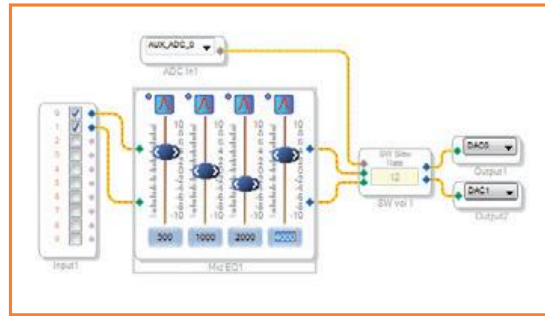

Figure 6. These four sliders are the virtual equivalents of the pots on the DSP board. Here we're creating an equalizer function. Look, no maths!
- Connect the blocks as pictured in **Figure 6**.